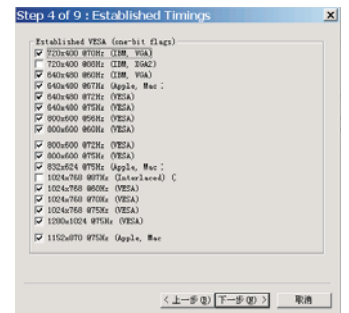

Fig. 38
- 3. Click Next, bring up Fig. 38.